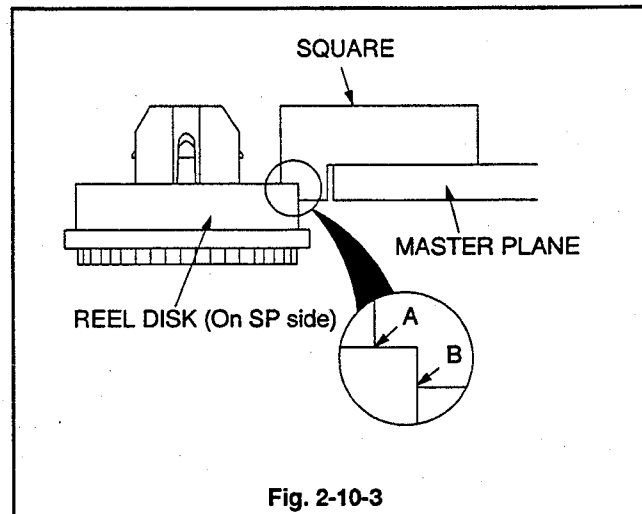

Fig. 2-10-3
4. Place the height adjustment jig [SQUARE] (859C433O60) shown in Fig. 2-10-3 on the MASTER PLANE. Move it to the position shown in Fig. 2-10-3 and make sure that A can pass, but B cannot pass, under the REEL DISK (On SP side).
10. Install the height adjustment jig [MASTER PLANE] (859C342O20) shown in Fig. 2-10-3 in the reference position.